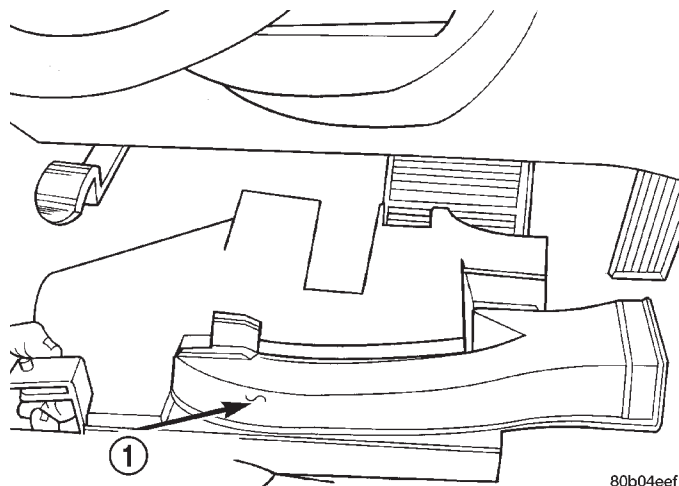

Fig. 76 Panel Removal/Installation
- (2) Remove gearshift knob from shifter assy.
- (3) Remove console bezel from vehicle.
- (4) Remove under panel silencer/duct assembly (Fig. 76).
(17) Install the lower silencer panel (Fig. 76).